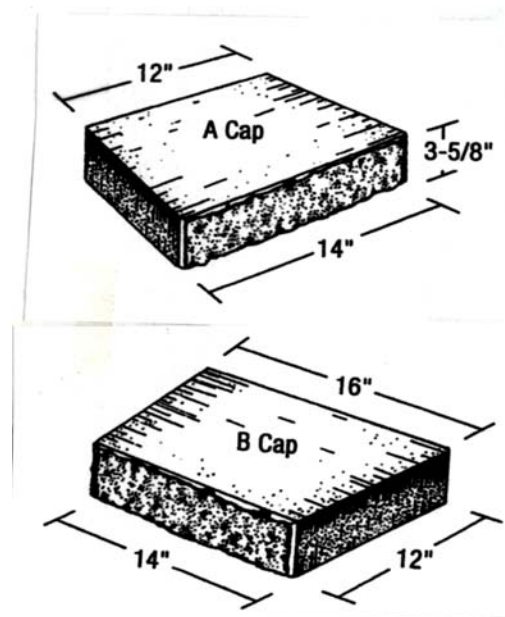

Figure 7. Type A and Type B cap units used to cap straight, convex or concave concrete block retaining walls.
8. **Capping** – Two cap unit types may be used to finish installed walls. Cap units may be set back, flush, or set out as much as one inch from the face of the wall. Alternate Type A and Type B caps on straight wall sections (Figure 7). Use only Type A caps on convex walls and Type B caps for concave walls. Secure caps using a concrete adhesive.